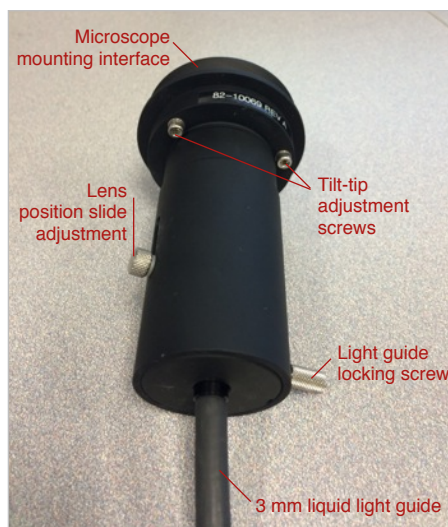

Figure 1
Lumencor's Olympus (PN 82-10069) collimator is designed for optimized connection of a Lumencor light engine to an Olympus microscope illumination input port via a 3 mm liquid light guide (LLG). The collimator has been designed to provide control over the size of the illuminated area at the sample plane. This design allows the user to maximize the illumination intensity and uniformity for the field of view (FOV) of the eyepiece or camera sensor by adjusting the relative positions of two achromatic lenses within the collimator [Note 1]. The lens position slide adjustment (Figure 1) determines the distance between the two lenses. The light guide locking screw sets the distance between the LLG terminus and the first lens. The two adjustments must be made in tandem. Below are instructions for achieving the smallest and largest uniformly illuminated areas within the FOV. The goal of the procedure is to focus the image of the LLG on the back aperture of the microscope objective. This image can be obtained using a Bertrand lens. If your microscope does not have a Bertrand lens, remove the eyepiece to obtain an image of the back aperture of the the objective [Note 2].
2. Attach the collimator to the light input port of the microscope via the mounting interface (Figure 1).
3. Insert the liquid light guide as far as it will go into the collimator receptacle, as shown in (Figure 1). Secure the light guide by tightening the light guide locking screw.
4. Move the lens position slide adjustment (Figure 1) as far away from the microscope body as permitted by its range of travel.
6. Move the lens position slide adjustment (Figure 1) as far towards the microscope body as permitted by its range of travel.
8. The collimator can be directed to center the illumination in the FOV and thereby align the collimator output axially with microscope's optical train. Three 2.5 mm hexagonal screws on the front face of the collimator (Figure 1) should be loosened individually in 1/2 turn increments which will tip and tilt the collimator.